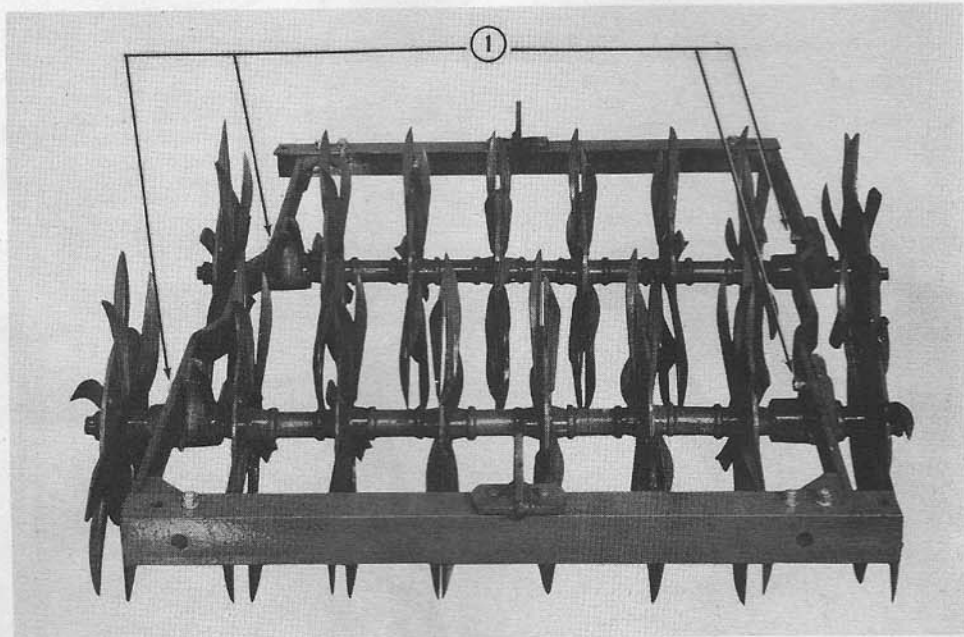

Fig. 4-B
- Bolt the weight box supports to the front and rear of the section at points 1. Fig. 4-C.